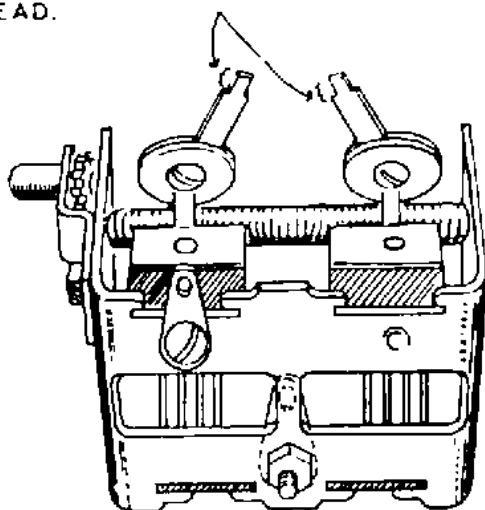

Figure 5
- ( ) Observing Figures 5 and 6, loosen the nut holding the disc condenser on the stator lug nearest the slide switch so that the condenser is just loose enough to be rotated.
- ( ) Bend pin 1 down against the condenser lead, being careful that the pin socket lug and lead from the disc condenser do not touch the metal part of the tube socket (NS).
- ( ) In a like manner, prepare the tube socket pin and the other disc condenser to meet pin 2 of socket H (NS). Now check once again to see that adequate clearance has been allowed between these connections and the metal part of the tube socket. Line up the hole in the tube socket pin with the hole in the flat disc condenser lead.